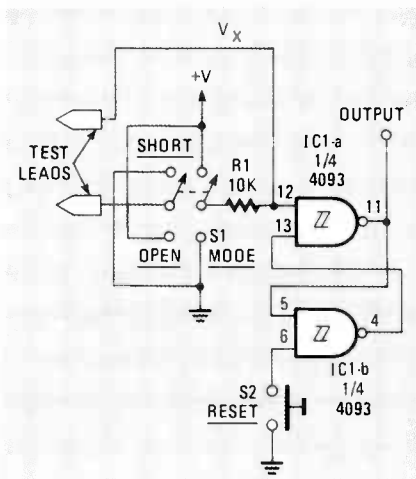
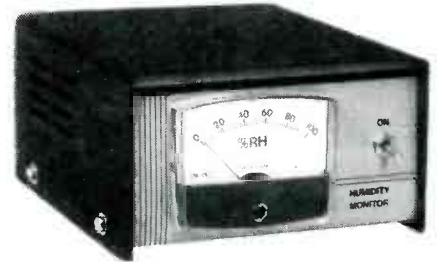

FIG. 1
FIG. 3
In Fig. 3 of the Latching Continuity Tester (November 1986), switch S1 is wired incorrectly. The correct wiring is shown in the circuit fragment in Fig. 1 here. Although not shown in Fig. 1, we should also note that the lead of BZ1 shown to ground should go to +V. We apologize for any prob-
The kits and parts for the Humidity Monitor (shown in Fig. 3) from the February 1986 issue of *Radio-Electronics* are still available at the prices listed in that article. However, we have recently moved. Our new address and phone number is: Mark C. Worley, 10614 Golden Quail Drive, Austin, TX 78758 (512) 832-0759. An SASE and note will get you the latest information and update sheets.